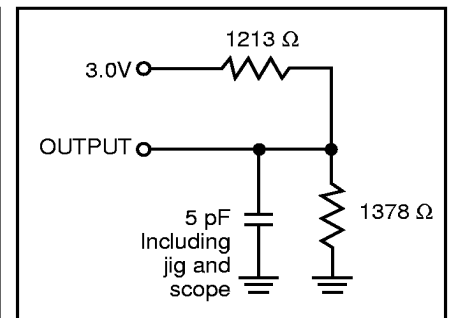

Figure 3.
2. Tested with the load in Figure 3. Transition is measured  $\pm 500$  mV from steady-state voltage. Not 100% tested.